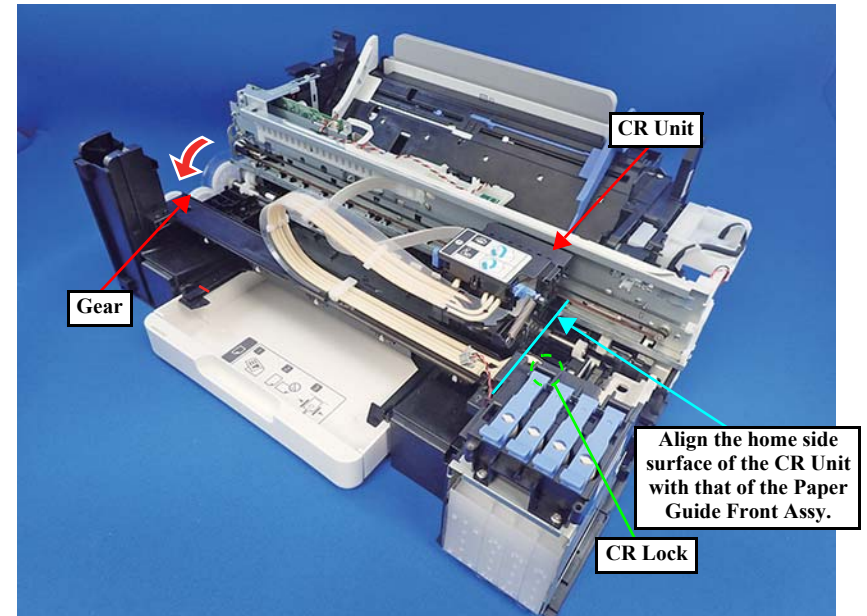

Figure 3-31.
- Make sure to work with the CR Unit positioned as shown in Figure 3-31
10. Release the CR Lock and move the CR Unit to the center. (Figure 3-31)